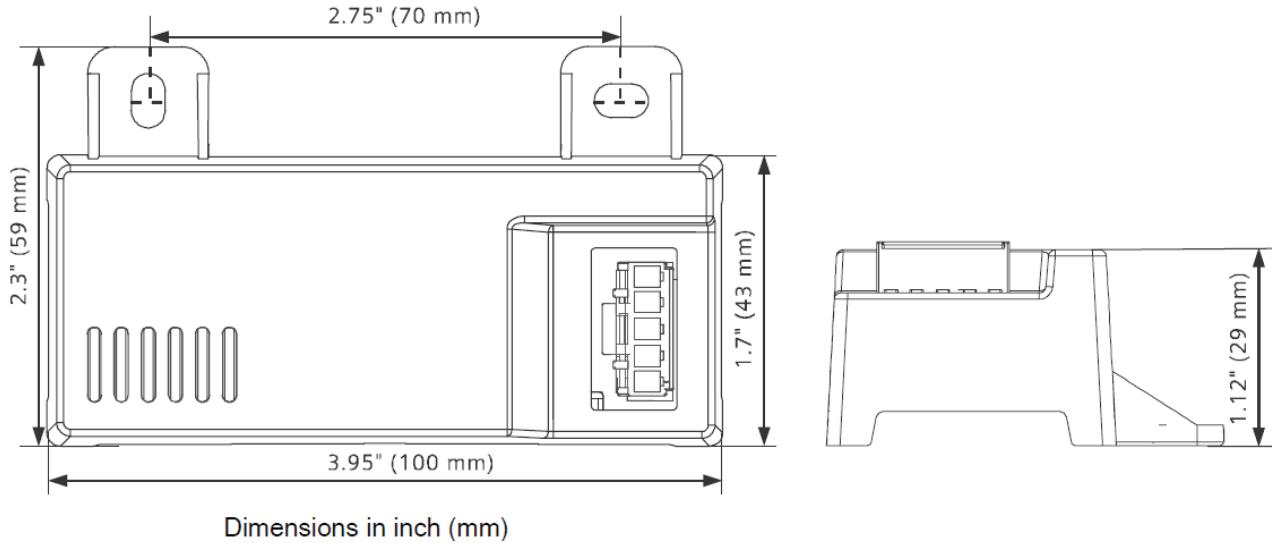
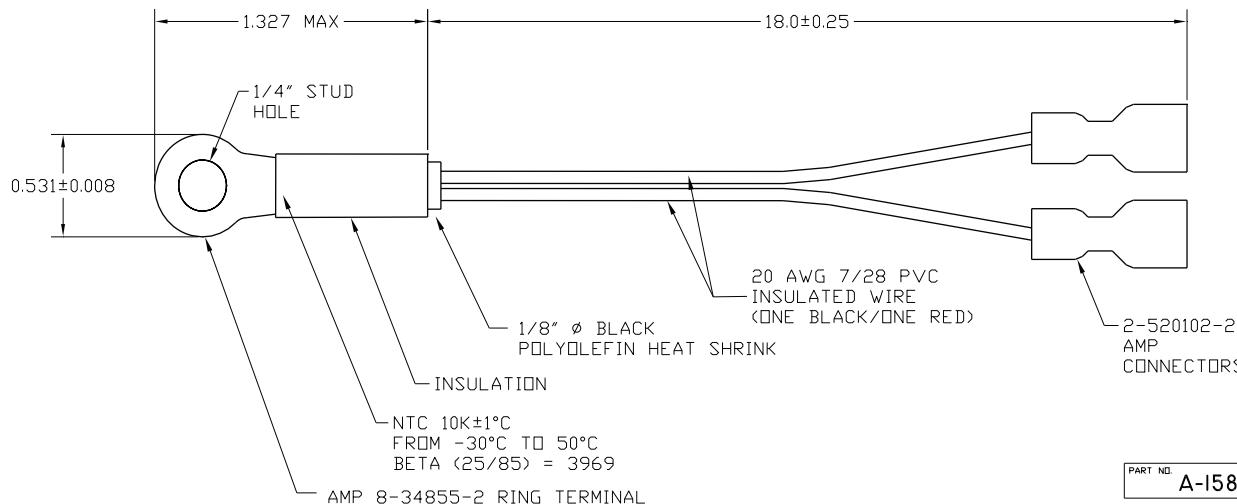
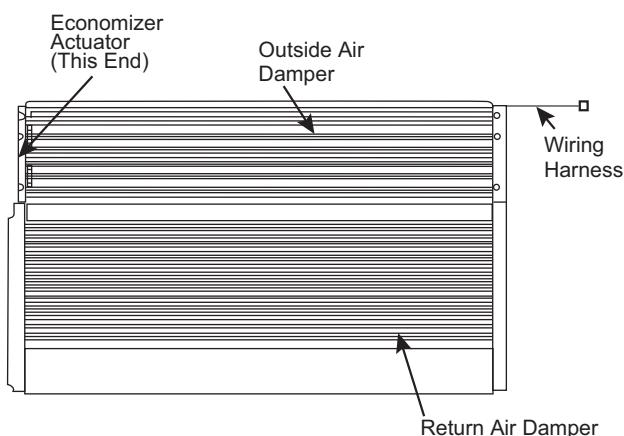

Fig. 77 — HH57LW001 Dimensional, Connection and Switching Information
Fig. 78 — HH79NZ039 Dry Bulb and Mixed Air Sensor Wiring
Fig. 79 — EconomizerONE System Component Locations
When using the HH57LW001 enthalpy sensor (see Fig. 77) for outside air changeover, the existing HH79NZ039 dry bulb sensor (see Fig. 78) must be removed. The enthalpy sensor will be mounted in the same location as the dry bulb sensor (see Fig. 79). When the enthalpy sensor's OA (Outside Air) temperature, enthalpy, and dew point are below their respective set points, outside air can be used for free cooling. When any of these are above their set point, free cooling will not be available. Enthalpy set points are configurable and create an enthalpy boundary according to the user's input. For additional details, see Fig. 80-81 and Table 22.
The optional enthalpy control sensor (P/N: HH57LW001) communicates with the POL224 economizer controller using the 5-wire harness, 48TC005213. The HH57LW001 sensor can be used as a single outside air enthalpy, a differential return enthalpy, or a differential return temperature sensor. Refer to the base unit control wiring diagrams found earlier in this book to wire the HH57LW001 enthalpy sensor for each option. See Fig. 77 and Table 24 on page 60 to locate the wiring terminals for each enthalpy control sensor.
Economizers are shipped standard with an HH79NZ039 outside air dry bulb sensor (refer to Fig. 78). System default setting (high temp limit) is 63°F (17°C) and has a range of 48°F to 80°F (9°C to 27°C). Sensor is factory installed on economizer.
If installing the optional HH57LW001 enthalpy sensor, the HH79NZ039 dry bulb outside air sensor must first be removed. Wire sensor to harness 48TC005213 and the (5) wires from the harness to the EconomizerONE harness in the return air chamber. Harness 48TC005213 has a 5-pin plug that connects directly to the HH57LW001 enthalpy sensor. Refer to the base unit control wiring diagrams earlier in this book for wiring connections. Refer to Fig. 77 and see Table 24.